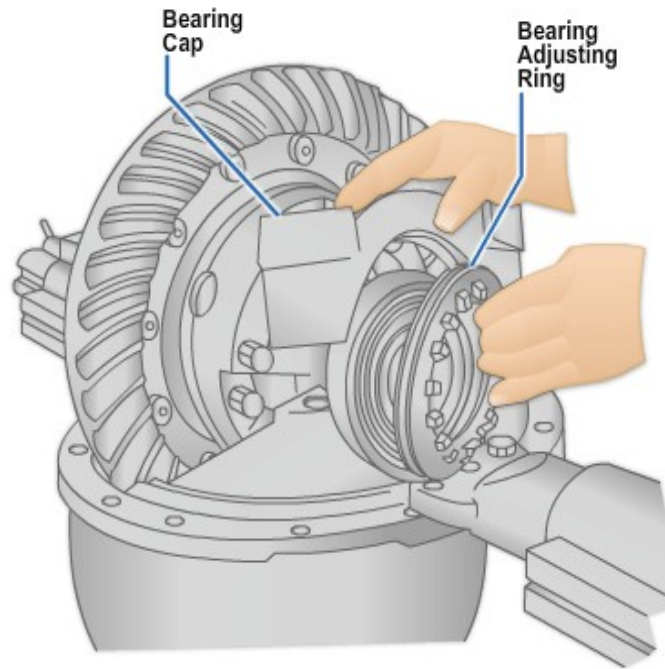

Figure 8-71 – Removal of the bearing cap and adjusting ring.
7. Remove the bearing caps and bearing adjusting rings from the carrier (Figure 8-71).